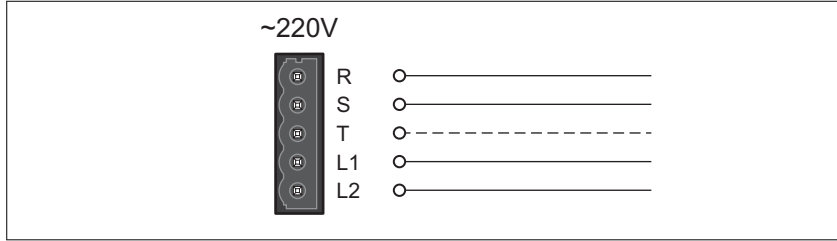

Figure 36: Wiring diagram power stage supply
- ▶ Connect the mains cable (Figure 36).